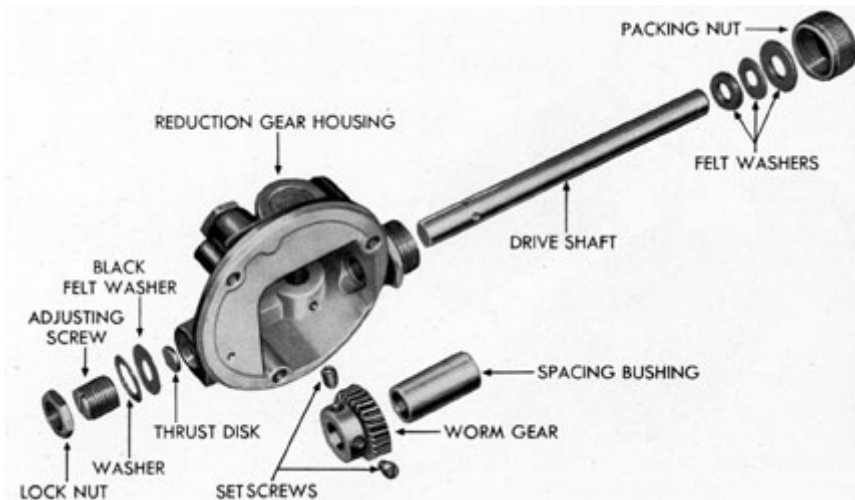

Figure 13-39. Reduction gear housing disassembled.
**13G24. Installing the power motor.** (See Figure 13-39.) Place the power motor in position on the mounting plate, using care when